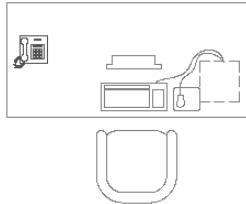

Figure 18-28: A set of office furniture.
1. Open `ab18-g-1.dwg` from the CD-ROM. This is a set of office furniture, as shown in Figure 18-28.